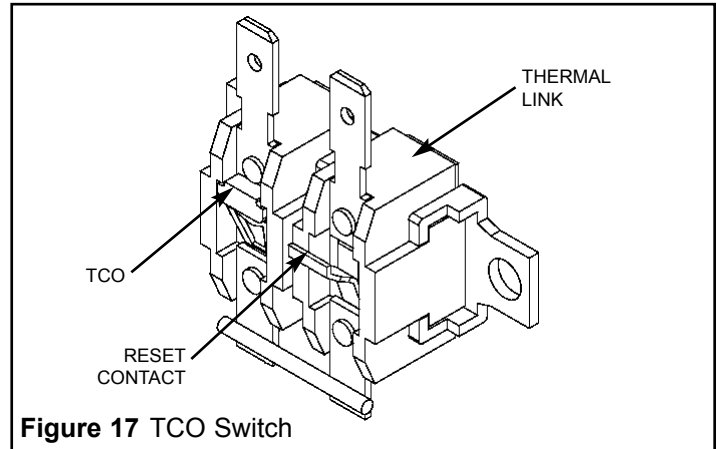

Figure 17 TCO Switch
3. Manually press the contact located on the front-right side of the TCO switch (Figure 17) until a click sound is generated. Do not use a metal tool or a screwdriver to press the TCO switch contact.